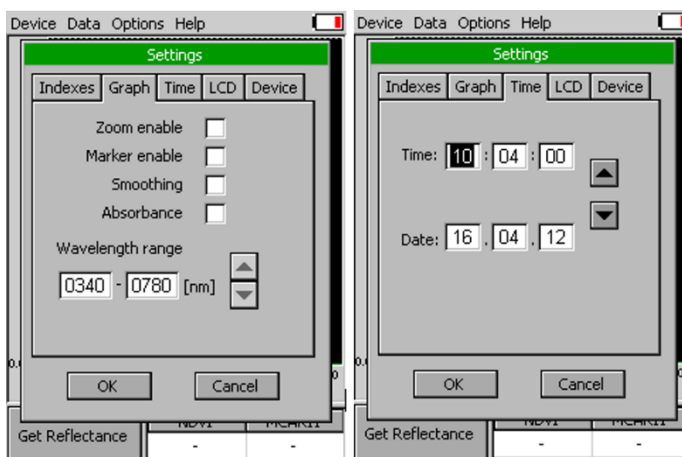

Fig. 9 Settings – Graph ant Time
- **Graph** – displays options for setting the wavelength range and graph features (Fig. 9).
- **Time** - Set the actual time and date (all data files are stored by time and date signature). To change time, touch on one of the values and adjust it using the arrows (Fig. 9).